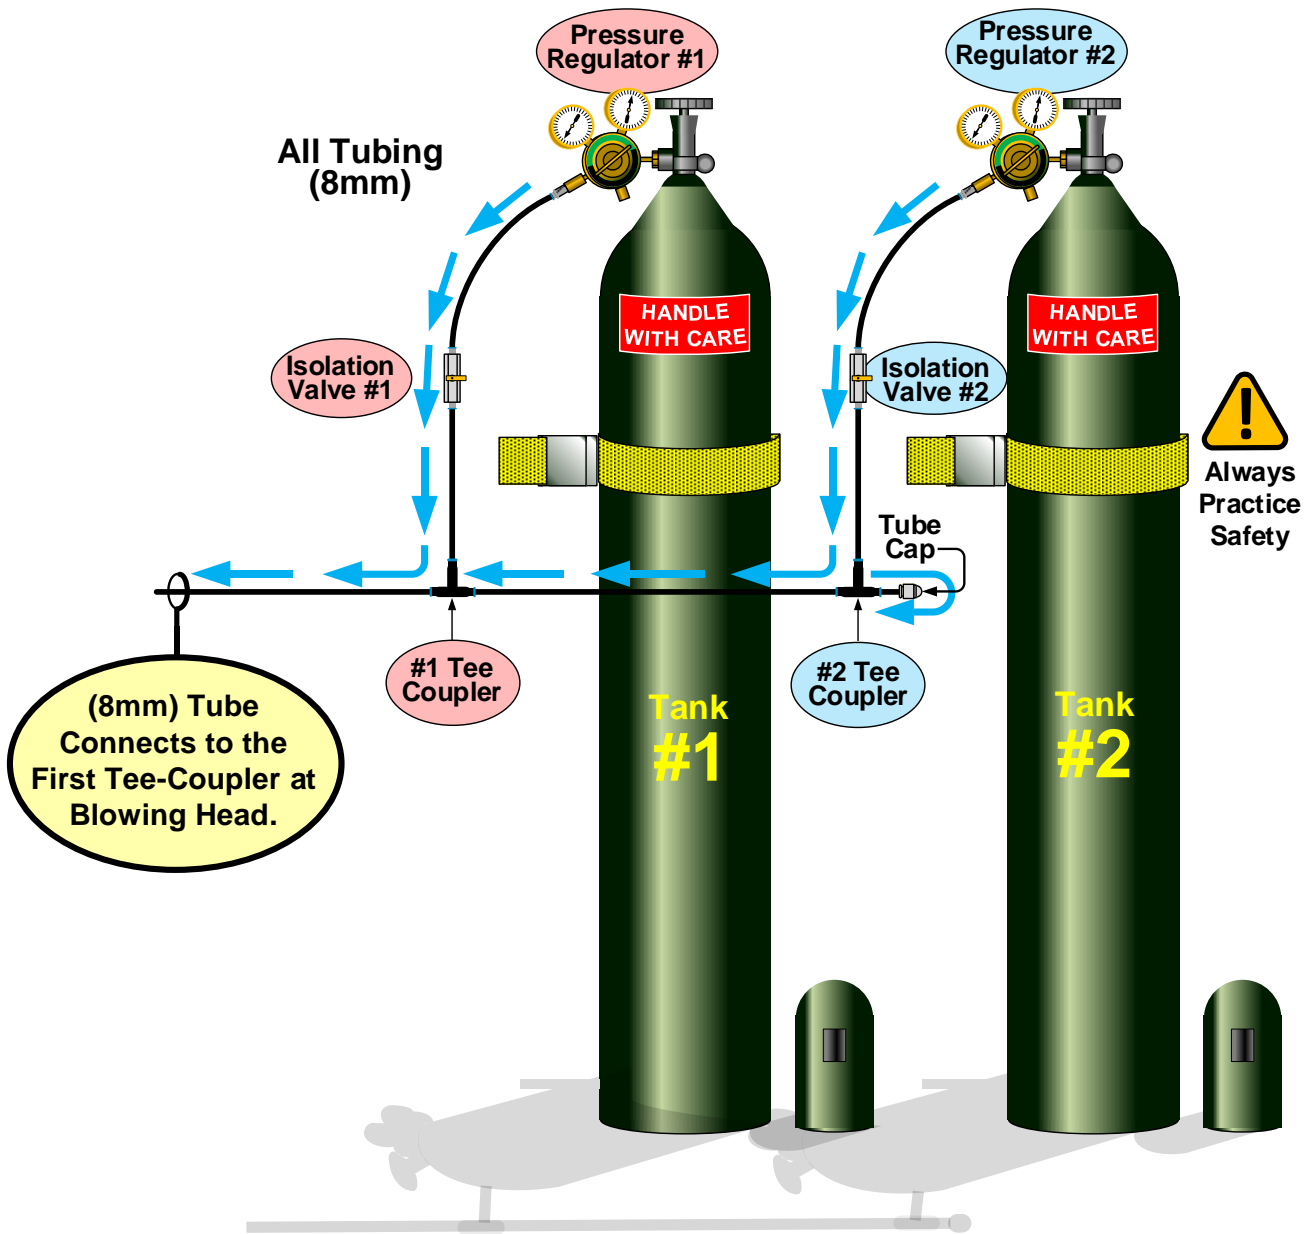

Figure 31
12.7 Push-fit the “Installer Provided” lengths of 8mm tubing between Pressure Regulators #1 and #2, Tube Adapters-(8mm) and the Tee-Couplers supplied in the Dual Tank Isolation Valve Kit. (3’ - 4’ length suggested.) **See Fig. 31.**
12.8 Push-fit the “Installer Provided” length of 8mm tube between the Tee-Couplers supplied in Dual Tank Isolation Valve Kit. (1’ - 2’ length suggested.) **See Fig. 31.**
12.9 Push-fit the “Installer Provided” length of 8mm tube between Tank #2 Tee-Coupler and the Tube Cap supplied in the Dual-Tank Isolation Valve Kit. (3” - 4” suggested.) **See Fig. 31.**
12.10 Push-fit the “Installer Provided” length of 8mm tube between Tank #1 Tee Coupler and the First Tee Coupler at the Blowing Head. (3’ -4’ length suggested.) **See Fig. 31.**
Tip: *It is best to set up Dual Tank equipment in configuration/arrangement as shown in **Fig. 31**. Excess tubing lengths are not desired. Keep things organized to improve access to both Isolation Valves later.*